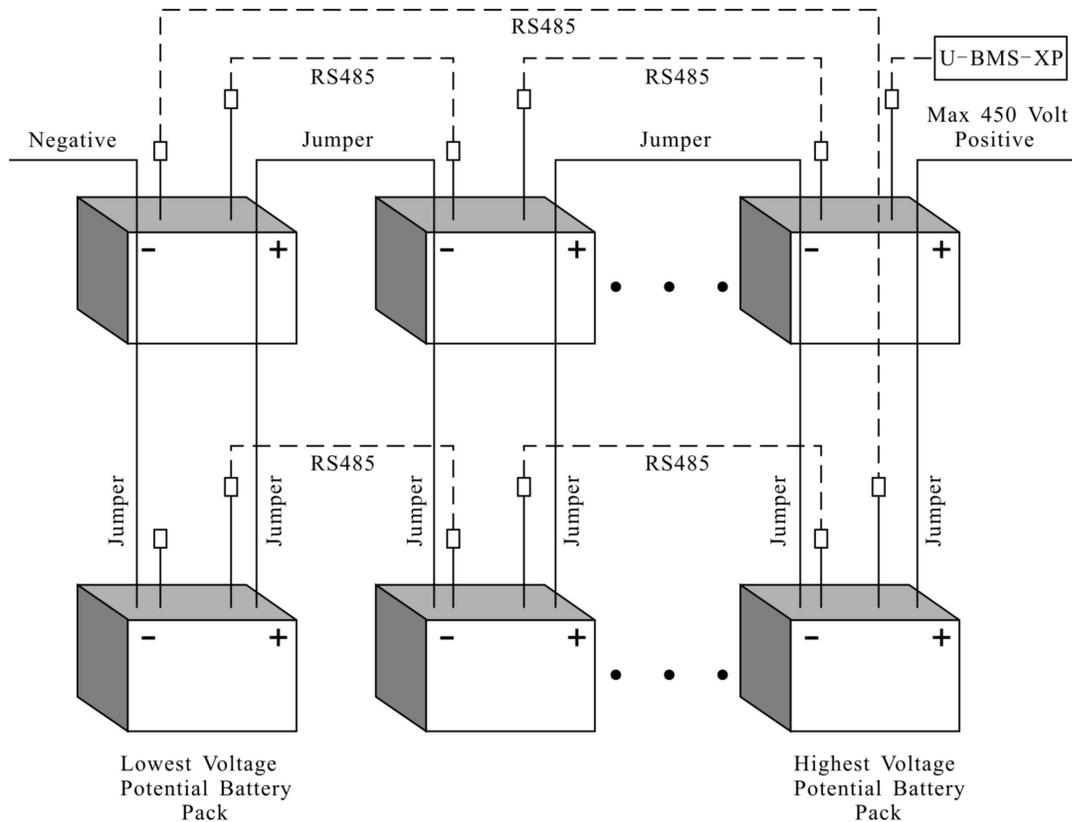

Figure 4. Installation of U-Charge[®] XP Power Systems in Parallel and in Series.
3. Batteries must be connected in parallel before the series string is connected as depicted in Figure 4.
The module configuration in Figure 4 shows a simultaneous parallel and series format. The parallel configuration allows for capacity to increase while voltage remains the same.
As shown in Figure 4, a combination of the parallel and series format allows for increased capacity and voltage resulting in longer run time. For example, if each battery shown below is a 12V battery, the combined parallel and series installation will result in 36V and twice the capacity.